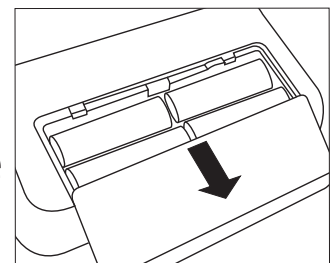

Fig. 1
- Open the battery cover on the bottom of the monitor (see Fig. 1). Insert the batteries (see Chapter 13 Technical data). Ensure correct polarity ('+' and '-') when inserting batteries. Close the battery lid. 12 h or 24 h flashes on the display. Set date and time as described below.